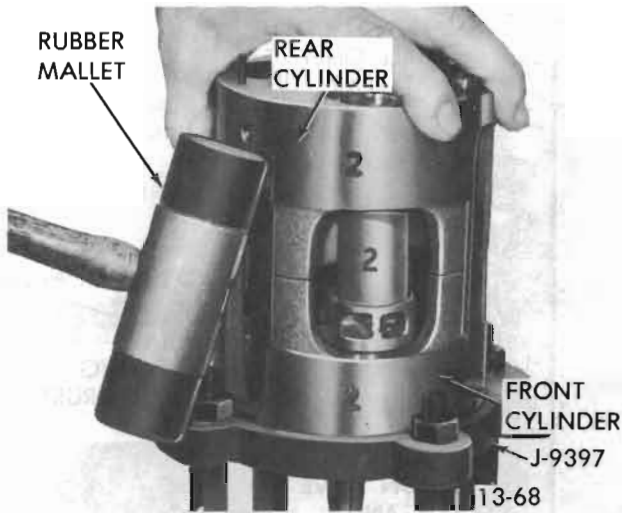

Figure 13-43 Separating Cylinder Halves
2. Place cylinder assembly (front end downward) on top of compressing fixture (J-9397), number pistons and cylinders "1, 2 and 3" to facilitate reassembly (see Figure 13-43), and separate cylinder halves using a hard rubber mallet or hammer and wood block.